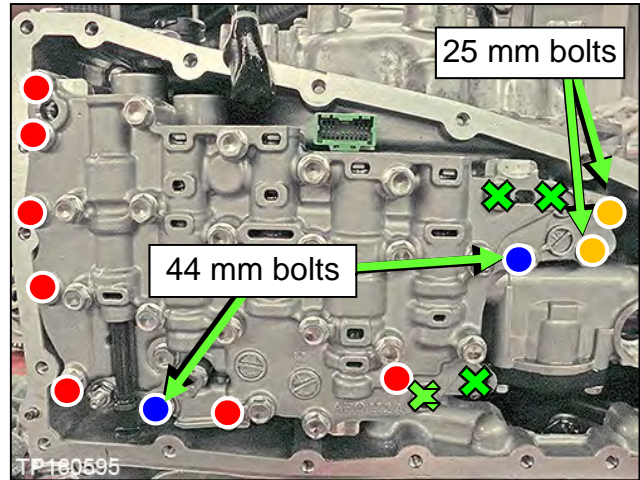
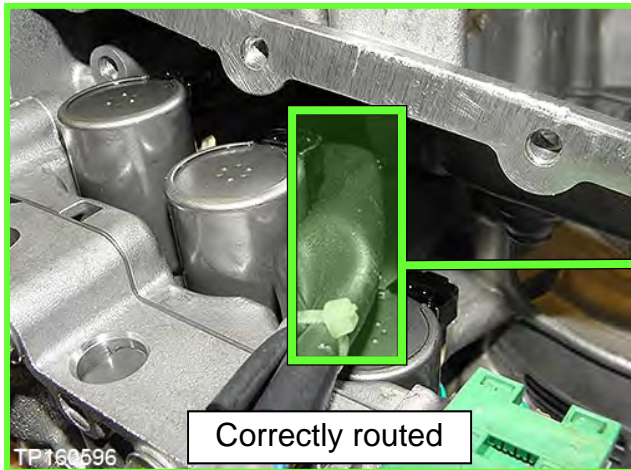
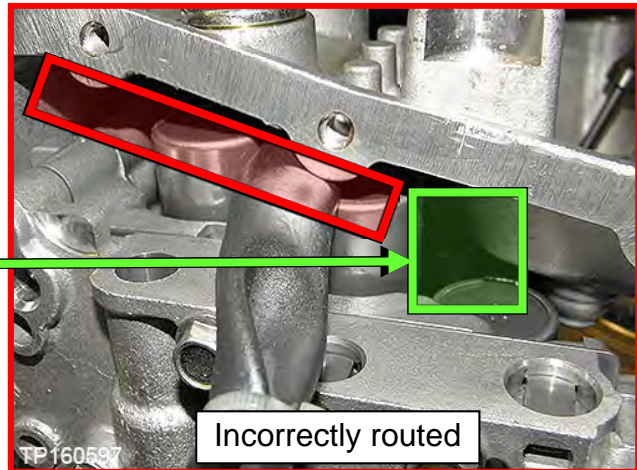

Figure 141
Figure 142
Figure 143
115. Install the Control Valve with eleven (11) mounting bolts (Figure 141).
**IMPORTANT:** Leave four (4)  bolt holes blank at this step.
**CAUTION:** Make sure the wiring harness does not get pinched (see Figure 142 and Figure 143 for correct routing).